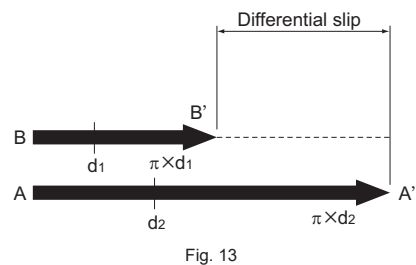

Fig. 13
As indicated in Fig. 12 and Fig. 13, for each revolution, the ball slips a distance equal to the difference between the circumference of the inner contact diameter (πd_1) and the circumference of the outer contact diameter (πd_2). (This slip is called differential slip.) If the difference is large, the ball rotates while slipping, the friction coefficient increases more than 10 times and the friction resistance steeply increases.
<p>Since the balls contact the raceway at two points in the load direction, as shown in Fig. 12 and Fig. 13 on B1-19, whether under preload or normal load, the difference between d_1 and d_2 is small, as is the differential slip, allowing a smooth rolling motion.</p>	<p>The difference between d_1 and d_2 in the contact area is large as shown in Fig. 12 and Fig. 13 on B1-19. Therefore, if any of the following occurs, the ball will generate differential slip, causing friction almost as large as sliding resistance and shortening the service life as a result of abnormal wear.</p> <ol style="list-style-type: none"> (1) A preload is applied (2) A lateral load is applied. (3) If two or more rails are mounted and they are not properly aligned (4) If spinning occurs